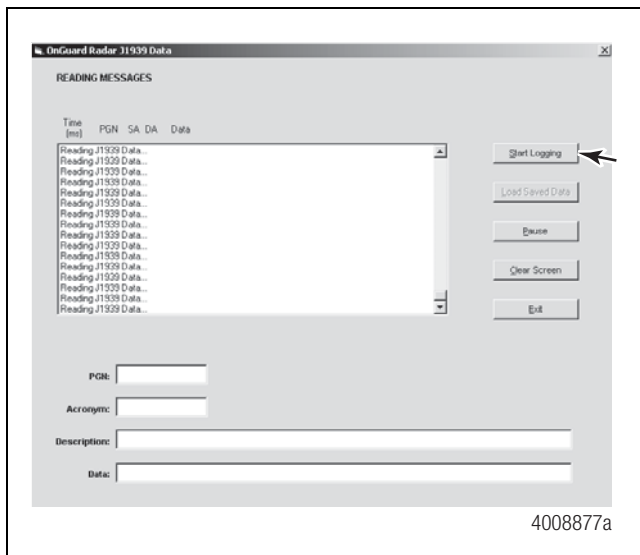
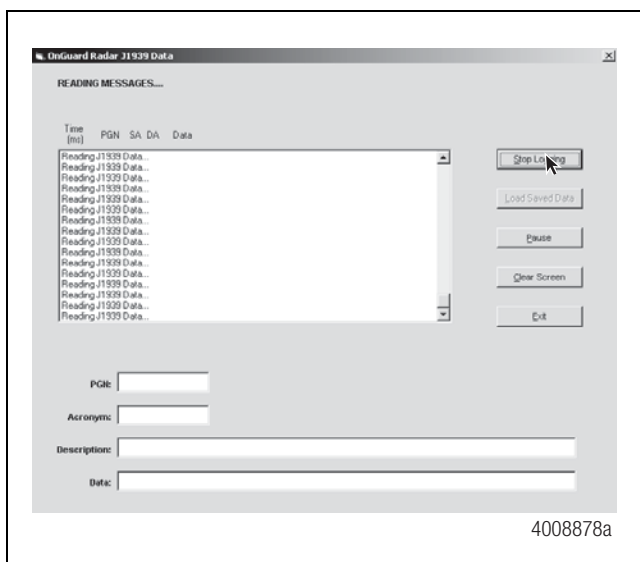

Figure 2.11
Figure 2.12
2. To capture a log file, click on “Start Logging”. Figure 2.11. A single log file will capture up to five minutes of information. To pause a log file, click on “Pause”; to resume logging, click on “Resume”. Once the required data has been captured, click on “Stop Logging”. Figure 2.12.